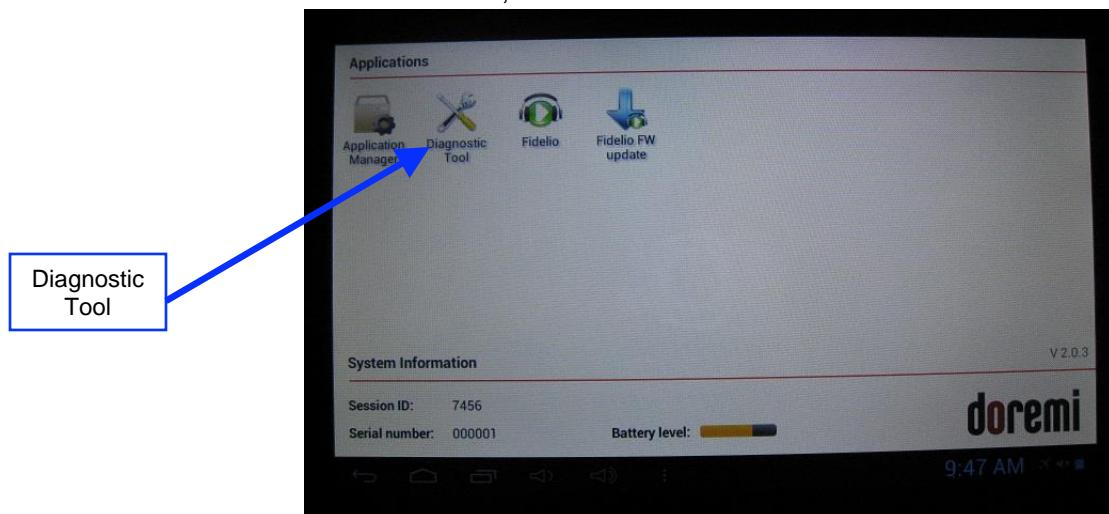

Figure 66: Diagnostic Tool Application
- To do so launch the Diagnostic Tool application (Figure 66), and using the mini USB to standard USB connector, connect a USB Thumb Drive.